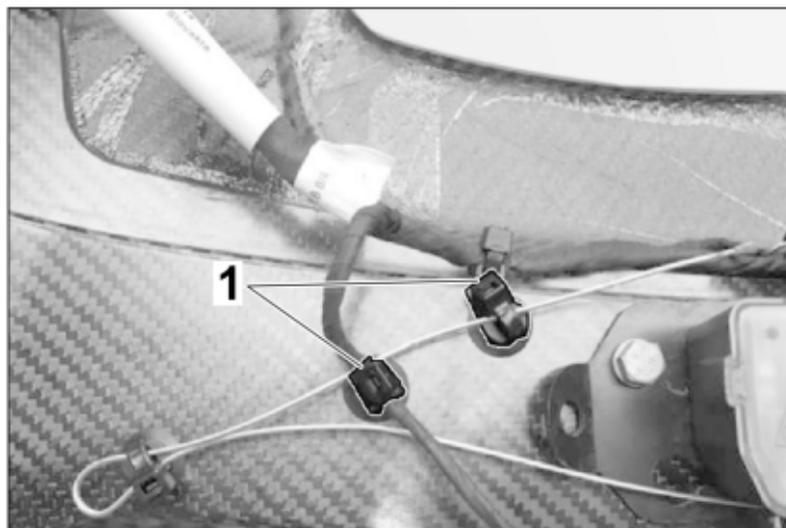

Figure 46
4. – Place new retaining clips (included) at the points shown ⇒ *Figure 46 -1-* into the mounting bracket and fasten the wire cable for the emergency release as shown opposite. Set the mounting bracket aside until it is ready to be installed to the vehicle.